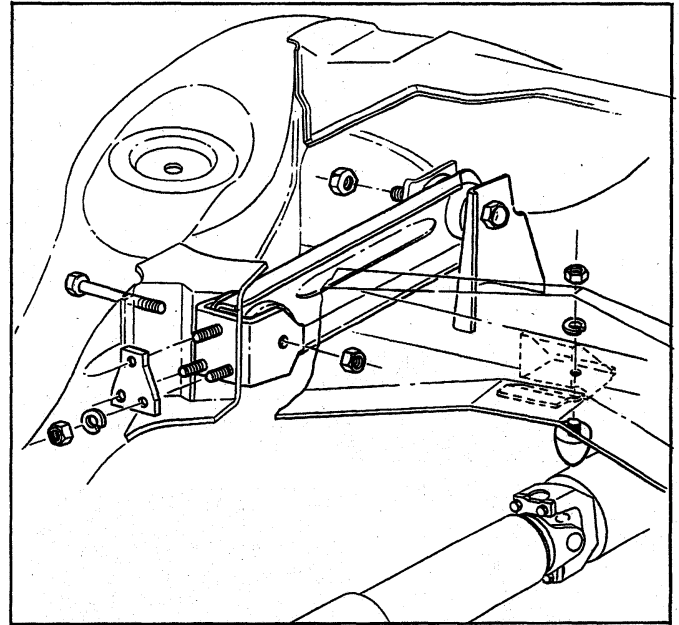

Fig. 30—Rear Suspension Upper Control Arm Attaching Points (Chevrolet)
1. Using a suitable hoist that will support the rear axle housing or wheels (such as a twin post or drive on ramp type), remove the rear pivot bushing bolt at the rear axle housing (fig. 30).